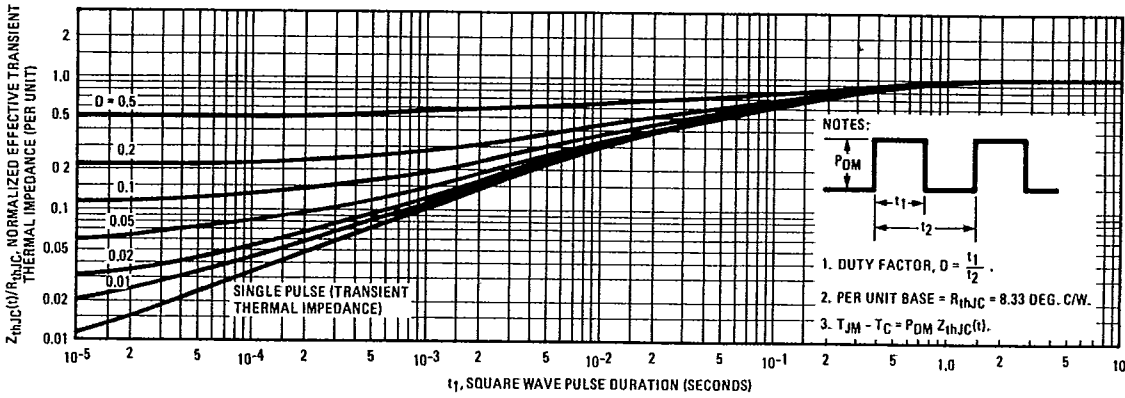

Fig. 5 — Maximum Effective Transient Thermal Impedance, Junction-to-Case Vs. Pulse Duration
- ①  $T_J = 25^\circ\text{C}$  to  $150^\circ\text{C}$ .
- ② Pulse Test: Pulse width  $\leq 300\mu\text{s}$ , Duty Cycle  $\leq 2\%$ .
- ③ Repetitive Rating: Pulse width limited by max. junction temperature. See Transient Thermal Impedance Curve (Fig. 5).
- ④ KW =  $^\circ\text{C}/\text{W}$